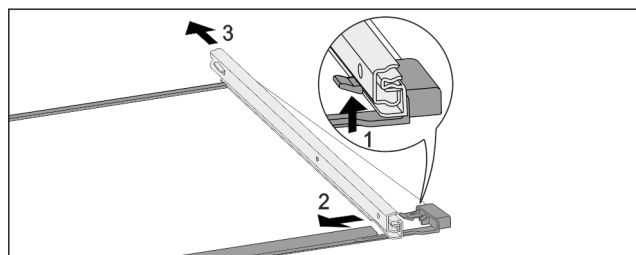

Fig. 150 Glass shelf with rails
- Push up front click-in hooks. Fig. 150 (1)
- Slide pull-out rails to the side Fig. 150 (2) and backwards Fig. 150 (3).